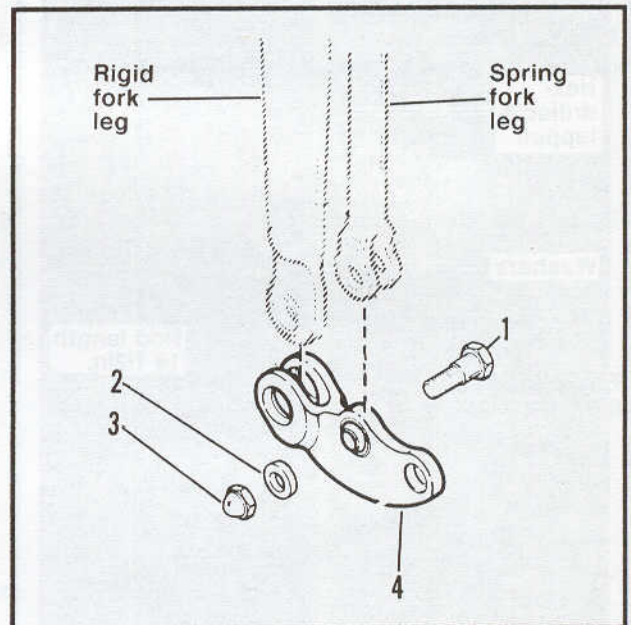

Figure 2-60. Rocker Assembly
3. Remove upper spring restraints (9).
4. Remove upper (rebound) springs (10).
5. Remove rebound spring cups (11).
6. Remove upper rubber travel bumpers (12).
7. Remove bushings (13).
8. See Figure 2-60. Remove spring fork thick head pivot studs (1), thick washers (2) and acorn nuts (3) from rockers (4).